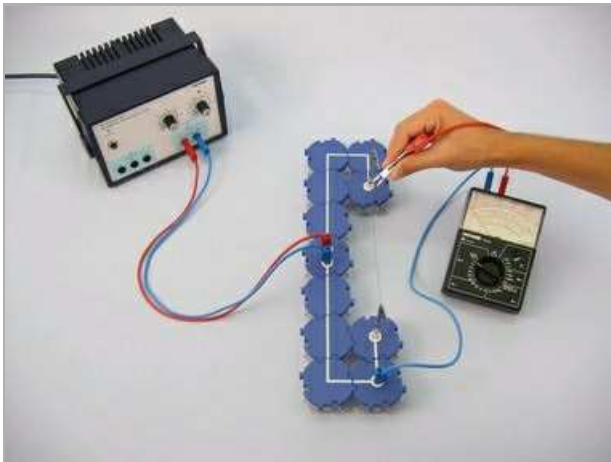

Fig. 5
- Connect a connecting cable with crocodile clip to the other side of the voltmeter. First attach this crocodile clip to the upper wire connection, as shown in Fig. 5.